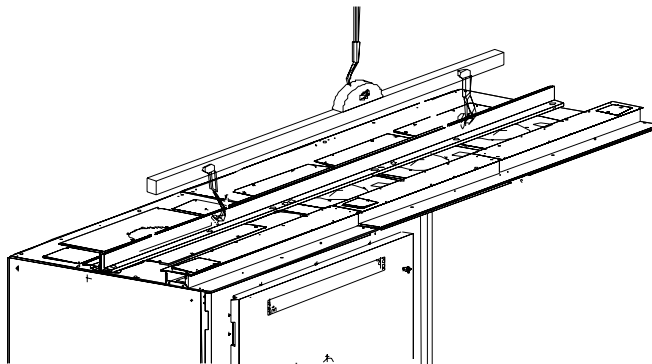

Figure 2 – Overhead Lifting with a Spreader Bar
5. Use a spreader bar to lift the controller if there is insufficient overhead space to permit a 45-degree angle of the lifting cables with respect to the vertical. Ensure the load rating of the spreader bar is sufficient to handle the controller. (See Figure 2)